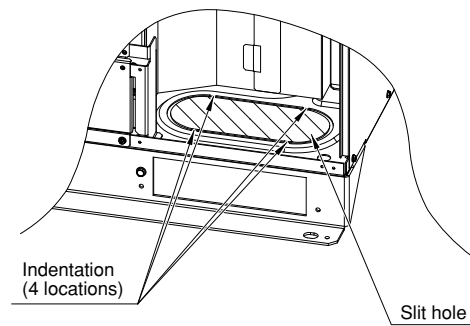

Fig. 4-6
- The tubing can be routed out either from the front or from the bottom. (Fig. 4-6)
- The connecting valve is contained inside the unit. Therefore, remove the front panel. (Fig. 4-6)